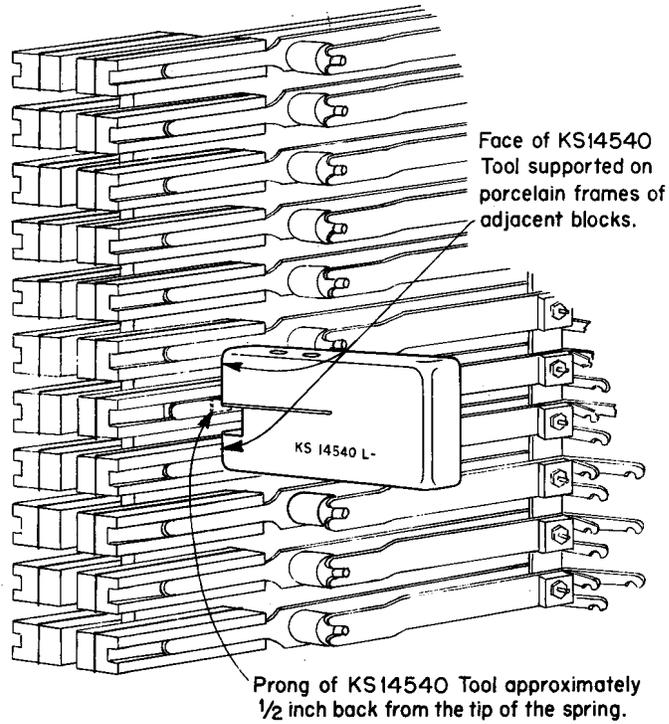

Fig. 1—Method of Using KS-14540 Tool
- (1) Insert the metal prong of the KS-14540 tool under the front end of the protector spring and raise the spring about 1/8 inch. Slide the tool along the spring approximately 1/2 inch, taking care not to dislodge adjacent protector blocks.
- (2) Allow the spring tension to draw the tool toward the protector, noting that the fibre legs of the tool rest on the porcelain frames of the adjacent blocks (Fig. 1).
- (3) With the tool in place, as shown in Fig. 1, remove the blocks by hand.
- (4) Reverse the procedure to place the blocks in the protector mounting.